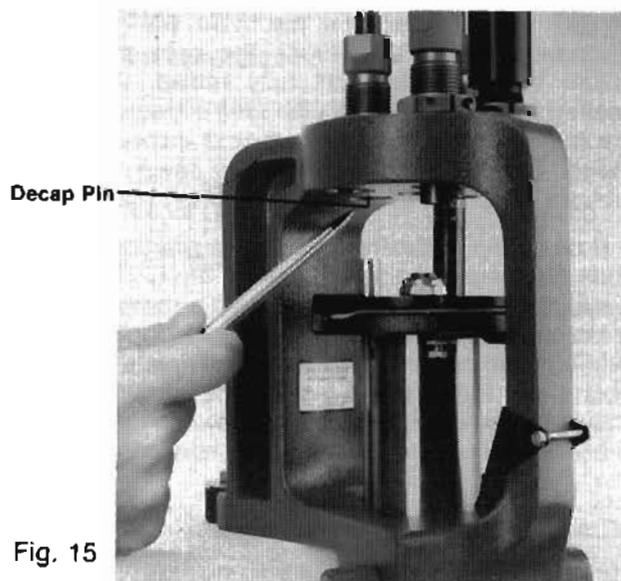

Fig. 15
**Size/Depriming Die** — Thread the size/depriming die into the press at Station One. Adjust the decapping spindle so the decap pin extends slightly below the shell plate when it is raised all the way (Fig. 15). This will insure complete removal of the spent primers. The spent primers will drop down the brass tube into the plastic bottle below. *Note:* If you don't hear the primers drop, stop and look. A new primer will not seat if the old one is still in the case, and the shell plate may not rotate.